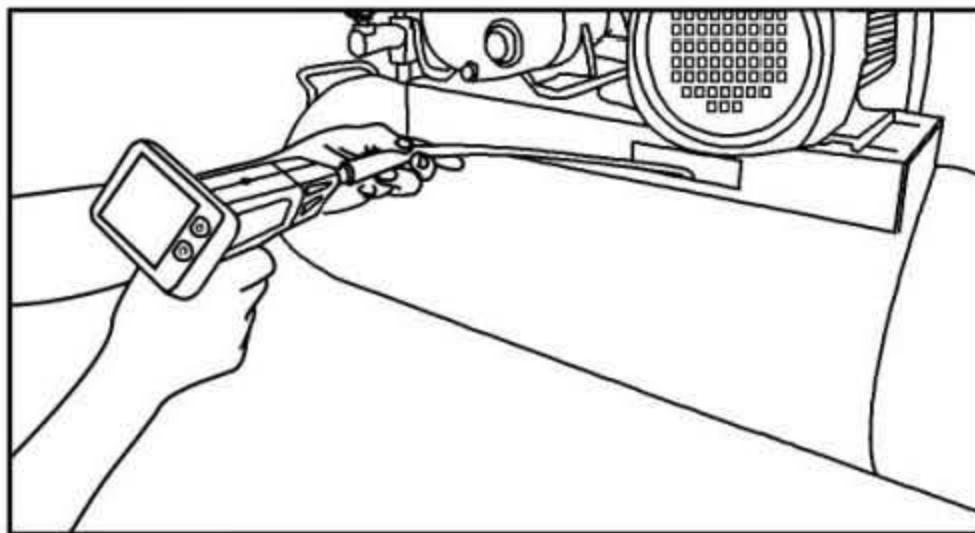

Fig. 12
(5) Use the supplied accessories to provide application flexibility.
(6) Connect the supplied video-out cable to video-out port of the tool and the other end of the cable to the video-in port of a TV to view a high quality real-time image.
(7) Detachable 3.5" TFT-LCD wireless monitor allows for remote inspection up to 32ft (10m) from the measuring point. *(Fig. 12)*.